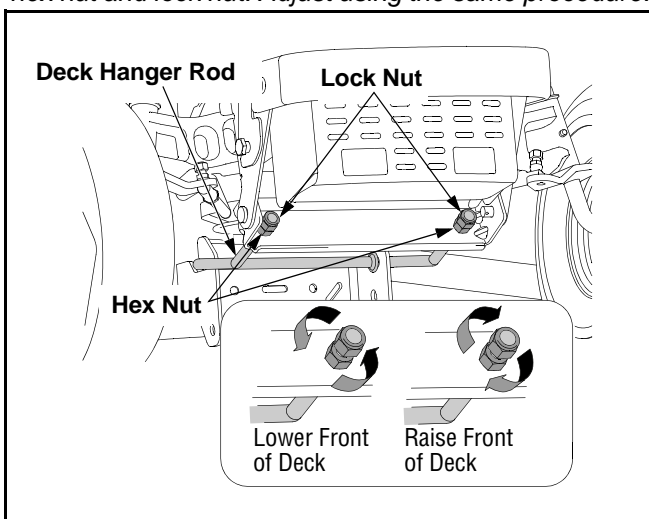

Figure 11
- From the front of the tractor, loosen the hex lock nut on each end of the deck hanger rod, and turn away from the inner hex nuts. See Figure 11
- Tighten the inner hex nuts front against the front hanger bracket to raise the front of the deck; loosen the hex nuts to lower the front of the deck. See Figure 11.